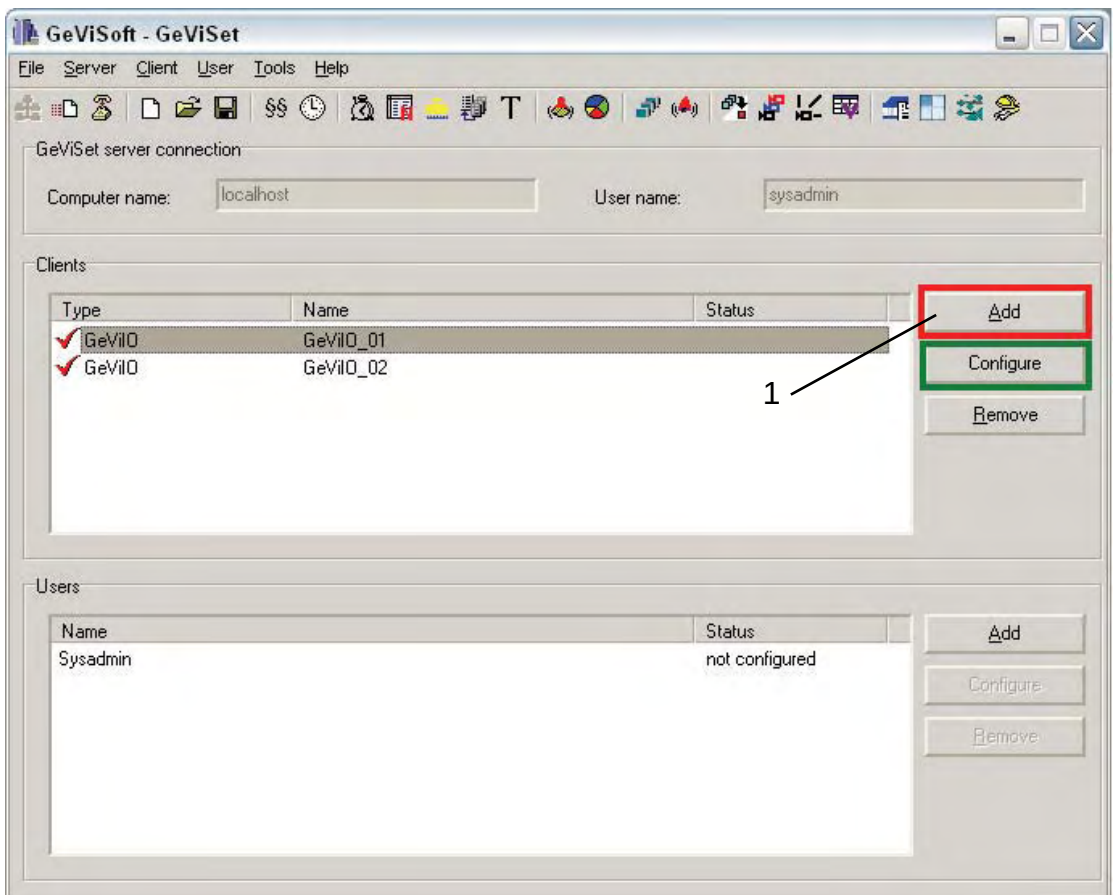

Figure 8-2: GeViSet
- Now add a new GeViIO client. For this, use the key "New" (figure 8-2, see 1).